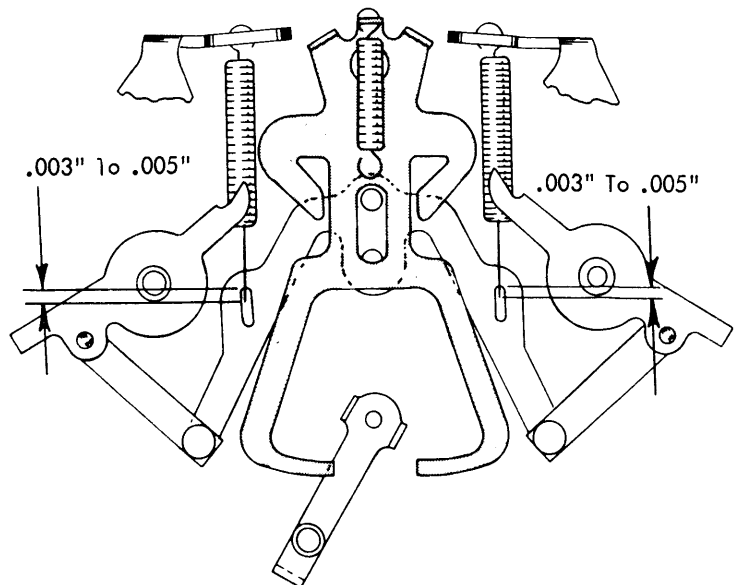

FIGURE 185. Centering Springs Adjustment
1. **Centering Springs** - With the ribbon reverse interposer centered, form the lugs of the ribbon feed plate for .003" to .005" clearance in the centering spring loops (Fig. 185).